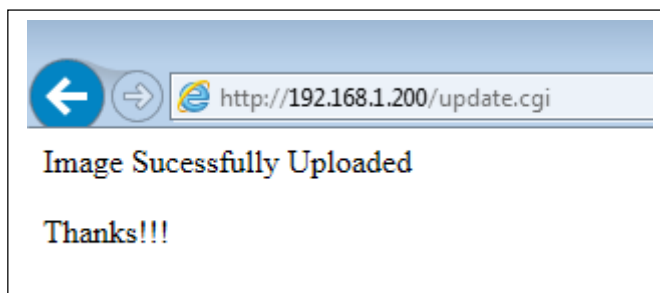

Figure 24. Old Upload Success Page
Step 4: Press the **Browse** button and Locate the **ZW_COORD_BL.b64** file using the dialog box. Press **Open**. After selecting the file press the **Send** button to begin the firmware update. The firmware update process may take several minutes. Do not close the web page or remove power from the device until the update is complete. When the update has finished the Update Success screen in **Figure 24** is shown.